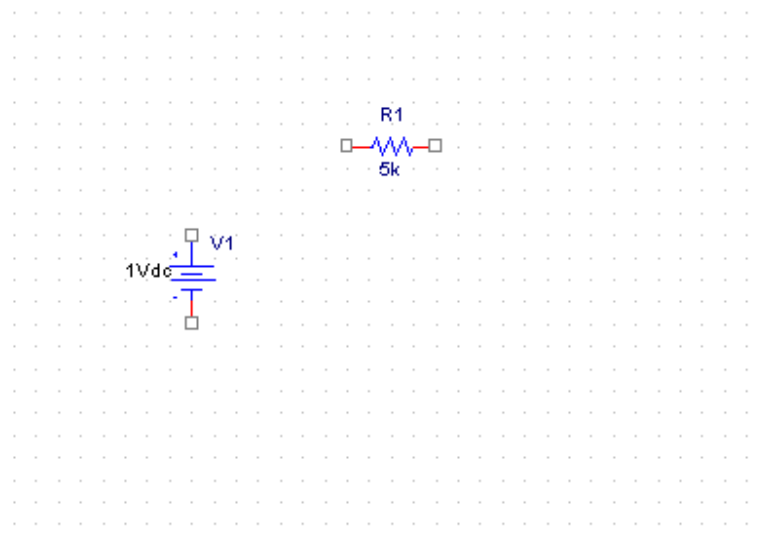

Figure 4 – Add 1V DC Voltage Source
- c. Place a DC voltage source (VDC) in the SOURCE Library. Set the voltage value to be 1V as shown in Figure 4.